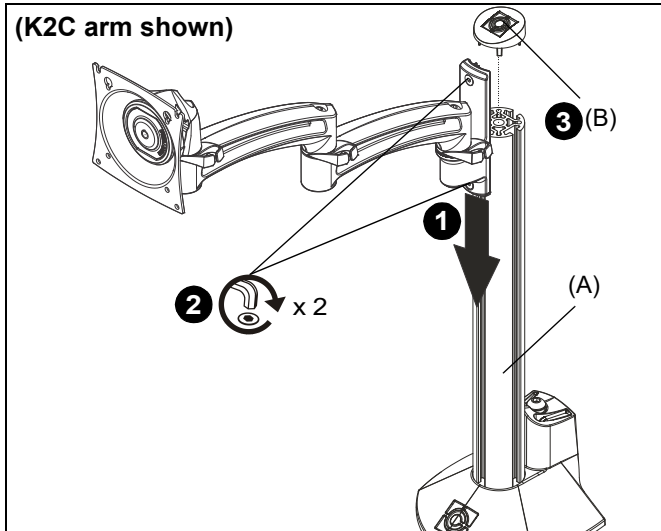

Figure 1
1. Slide existing Kontour Arm (not included) into any available channel on KRA245 column (A). (See Figure 1)
2. Tighten two screws on arm plate when arm is at desired height. (See Figure 1)
3. Install column cap (B) onto KRA245 column (A). (See Figure 1)